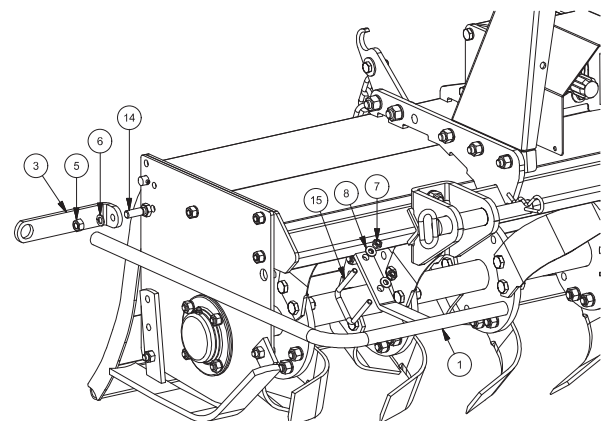

FIG. 9
1. Fit rear support (3, Fig. 9) with screw (14), nut (5) and washer (6).
2. Insert the longest side of the guard (1) into the rear support (3).
3. Fit front supports by means of screw (15), nuts (7) and washers (8).